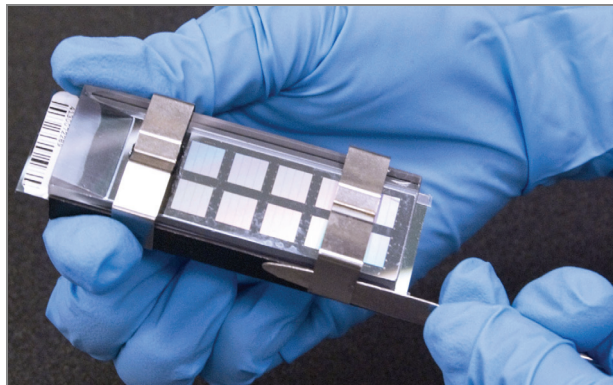

Figure 192 Removing Metal Clamps from Flow-Through Chamber
- a. Using the dismantling tool, remove the two metal clamps (Figure 192).